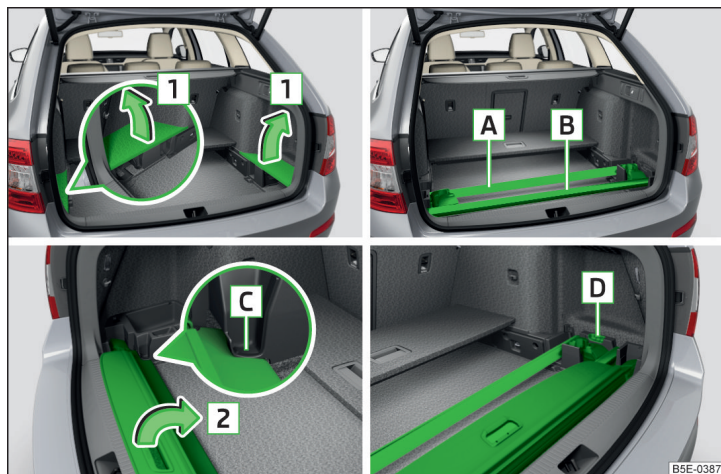

Fig. 107 Remove side covers / stow roof rack correctly / Stow roll-up luggage compartment cover / stow roof rack and roll-up luggage compartment cover correctly
- Remove the side covers of the luggage compartment in the direction of the arrow **1** » Fig. 107.
When stowing **both** the roof rack and the roll-up luggage compartment cover at the same time, the rear part of the roll-up luggage compartment cover should overlap the rear roof rack » Fig. 107.
The keys to the roof rack can be stowed in the recess **D** » Fig. 107.